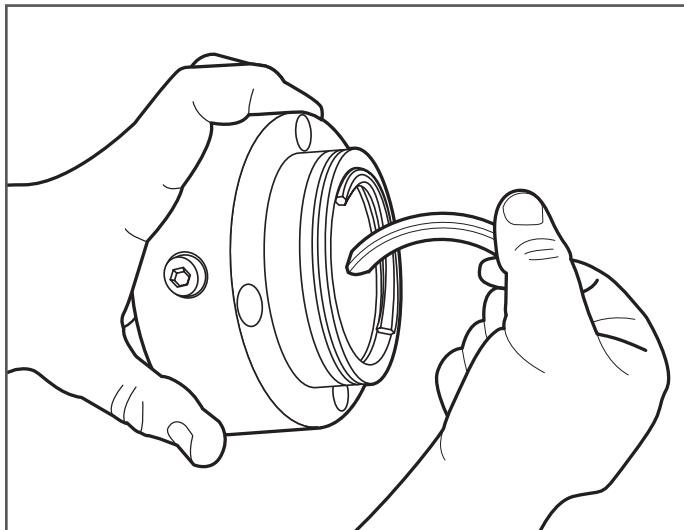

Figure 7-12
**13.** Remove split rings from middle section of DoubleTrac® fitting (Figure 7-12).